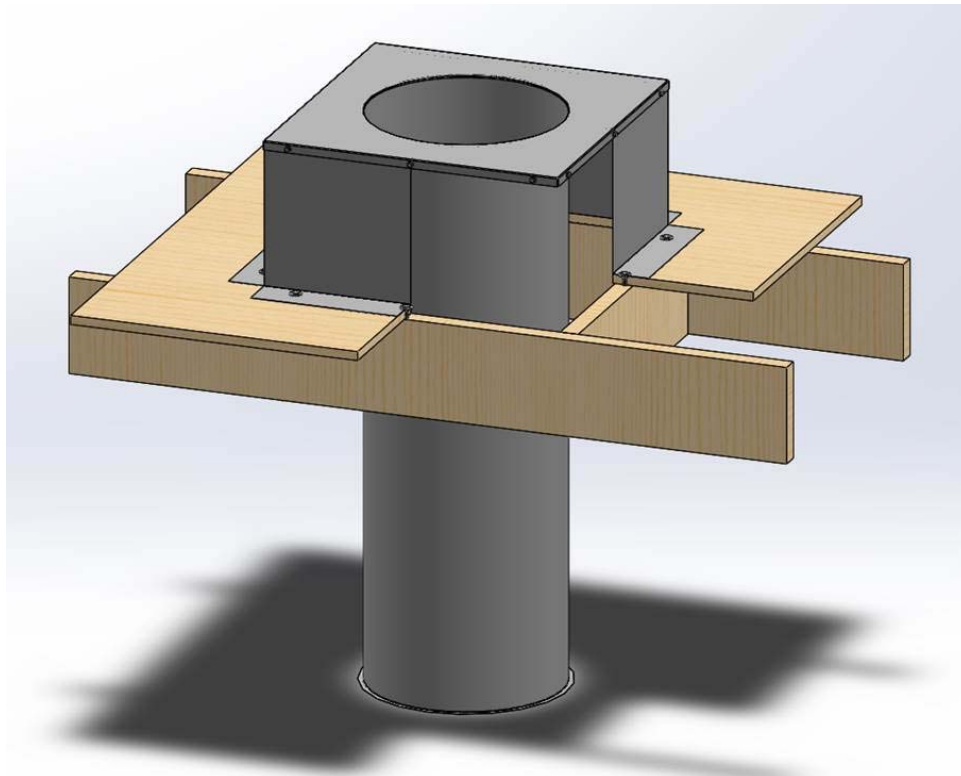

Figure 5. Curb Vertical Supports
- C. CURB VERTICAL SUPPORTS – Use the curb vertical support assembly (see Figure 5) supplied by the duct manufacturer and consisting of a min. 20 GA aluminized steel welded curb and